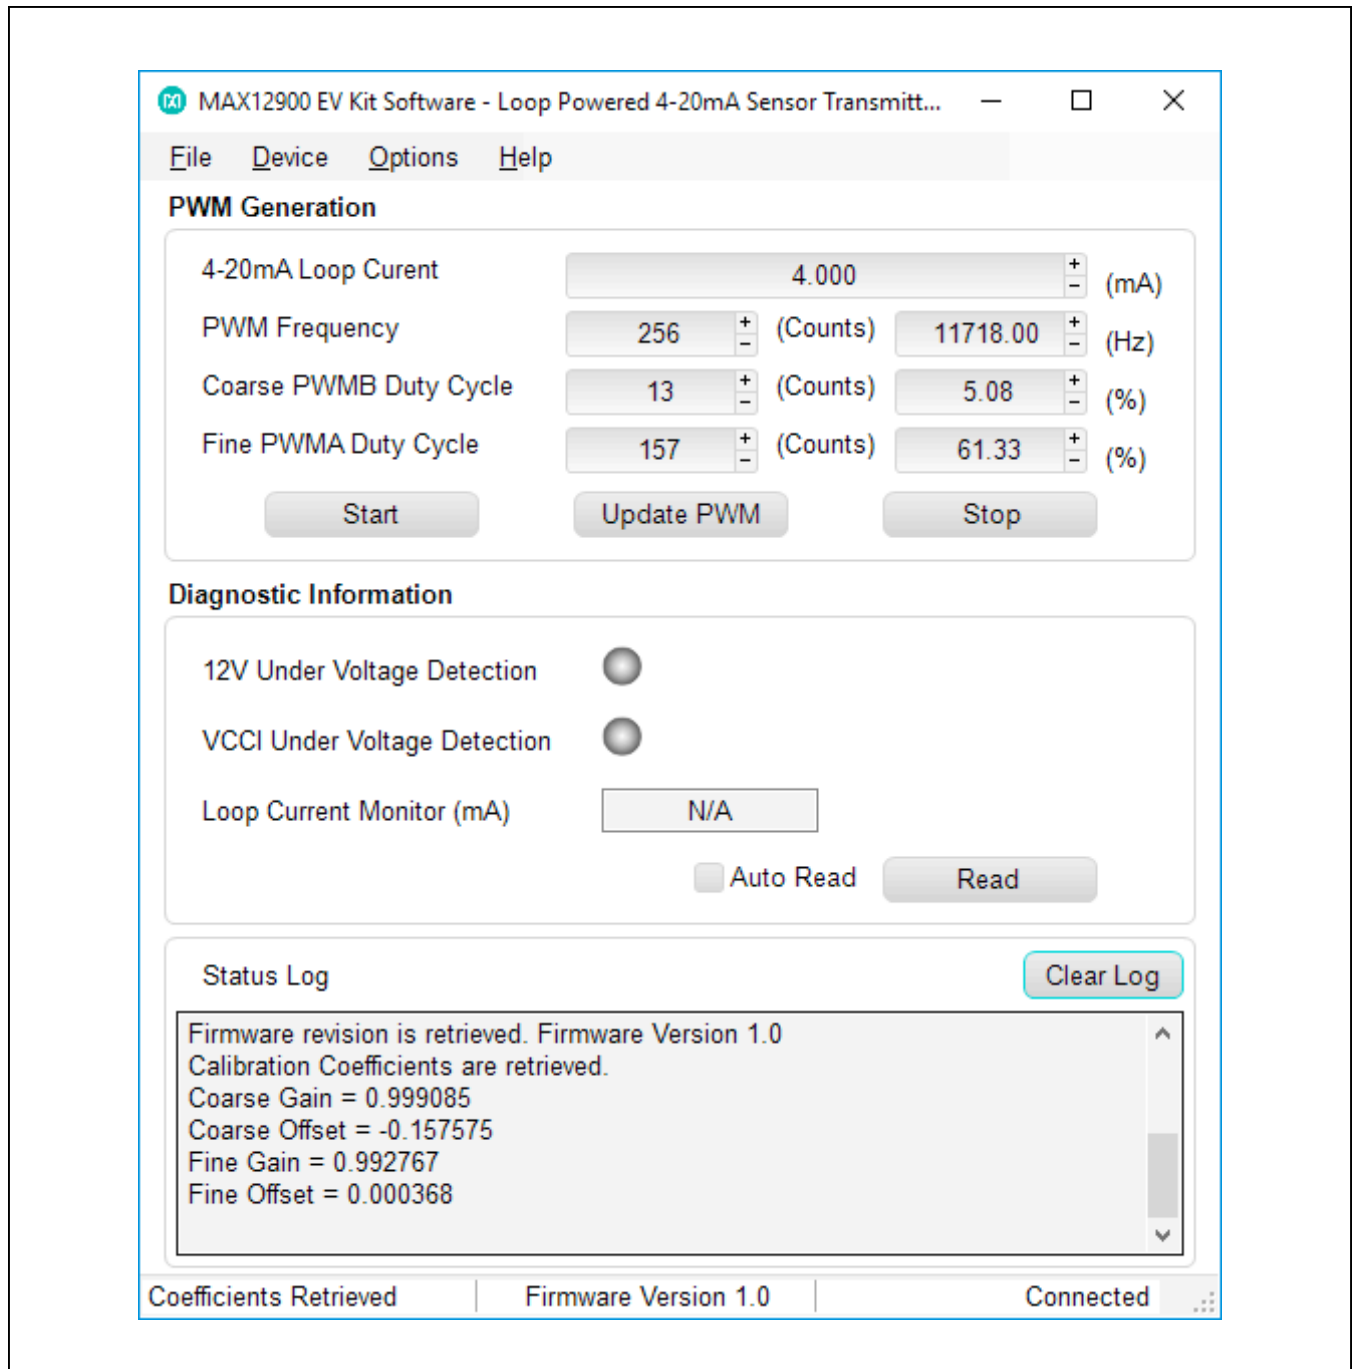

Figure 1. MAX12900 EV Kit GUI
- 6) Start the EV kit software by opening its icon in the **Start | Programs** menu. The EV kit software appears as shown in Figure 1. Verify that the lower-right status bar indicates the EV kit hardware is **Connected**. The GUI automatically detects EV kit is connected to the PC, and enables communication with the onboard microcontroller. It also retrieves calibration coefficients from the onboard microcontroller EEPROM and indicates them in the Status Log window.